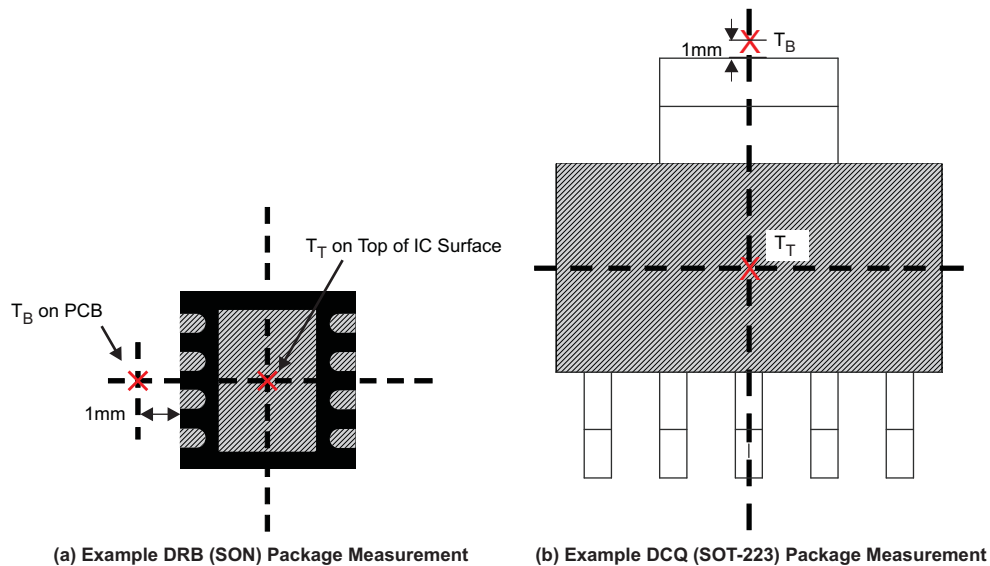

Figure 33. Measuring Point for  $T_T$  and  $T_B$
- $T_B$  is the PCB temperature measured 1 mm away from the IC package on the PCB surface (see Figure 33) (6)